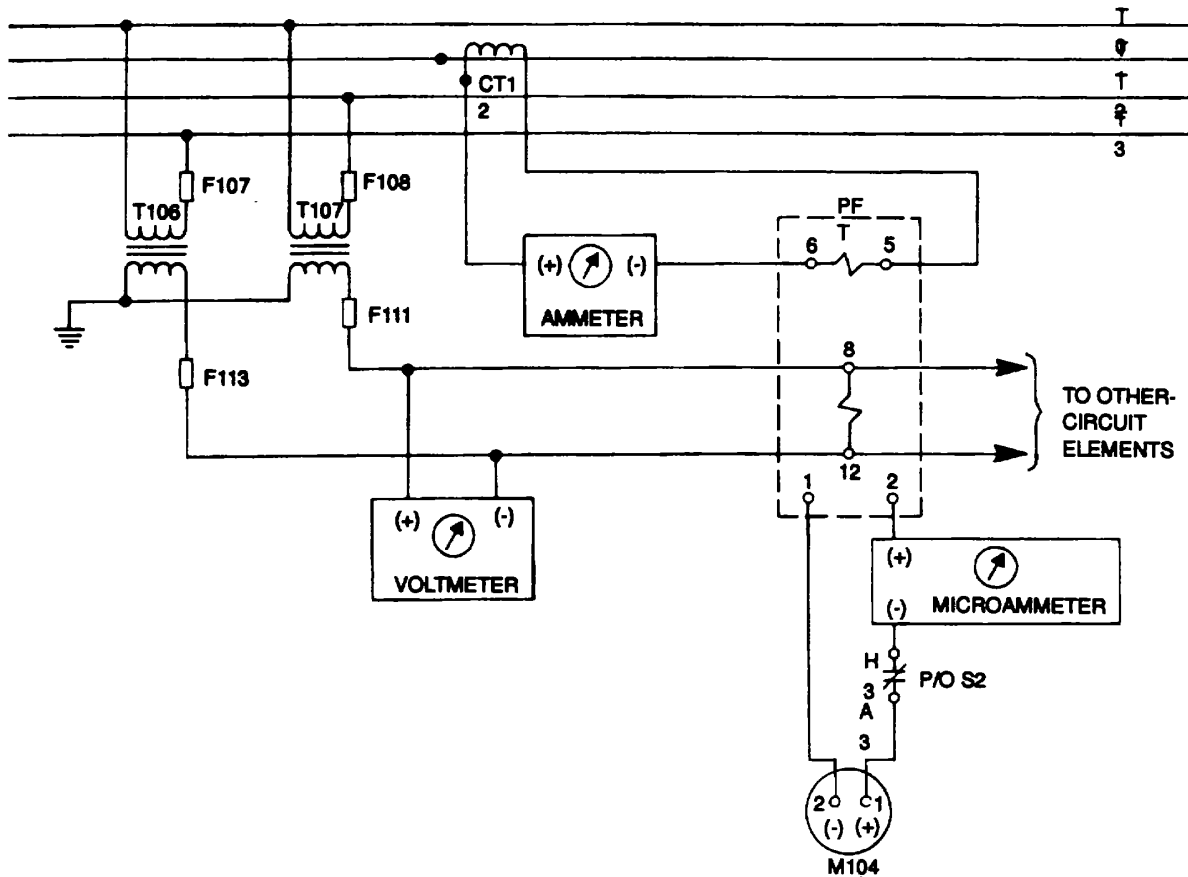

Figure 10-12. Power Factor Transducer PFR, On Equipment Test Setup
- (7) If the conditions of steps (3) and (5), above, have been met, then the power factor transducer PFr is good and the test is over. If conditions have not been met, further testing is required to determine if transducer PFT is defective or if some other related circuit elements are responsible for the unsatisfactory readings. Proceed with step (8), below.
- (8) Open upper cabinet B door. Refer to Figure 10-12. Install an ammeter in the line connected to power factor transducer PFT terminal 6. Connect an AC voltmeter across PFT terminals 8 and 12. Connect a microammeter in the line connected to PFT terminal 2.
- (9) Perform steps (1) and (2), above.
- (10) Verify the following: (a) The voltmeter reads 110 to 130 V ac.
- (11) Without decreasing load bank resistance, increase load bank reactance until the ammeter indicates 3.68 to 3.74 amperes.
- (12) Verify the following:
- (13) If the voltmeter and ammeter readings meet the conditions of steps (10) and (12), above, then power factor transducer PFT is good if micro ammeter readings also meet the stated conditions.